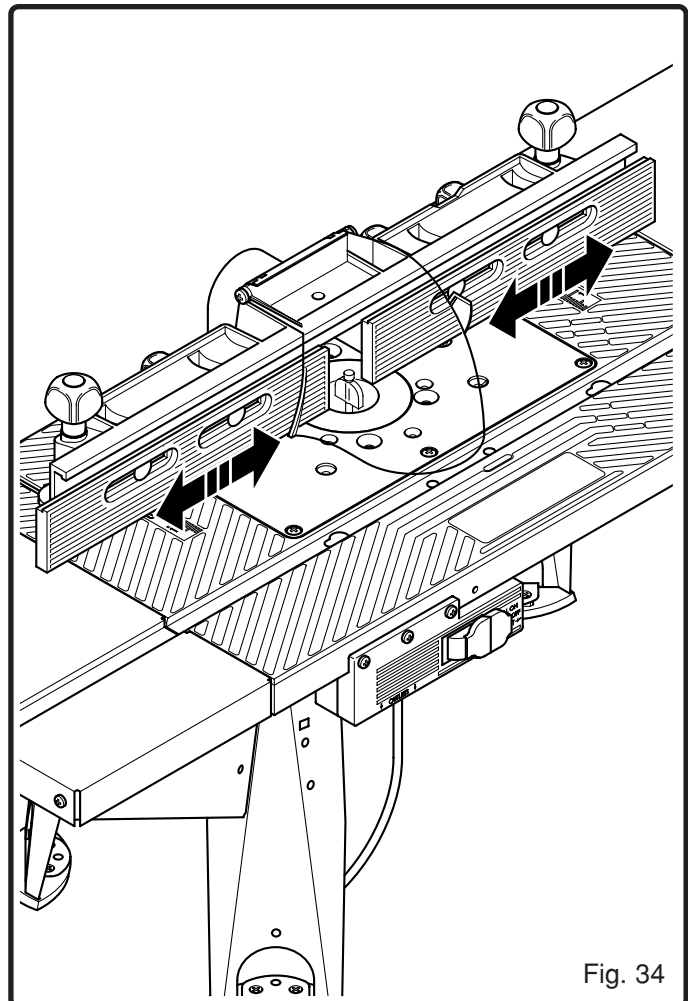

Fig. 34
2. Reposition fence slides closer to the router bit. Leave a 3/16" gap (see Figure 34).